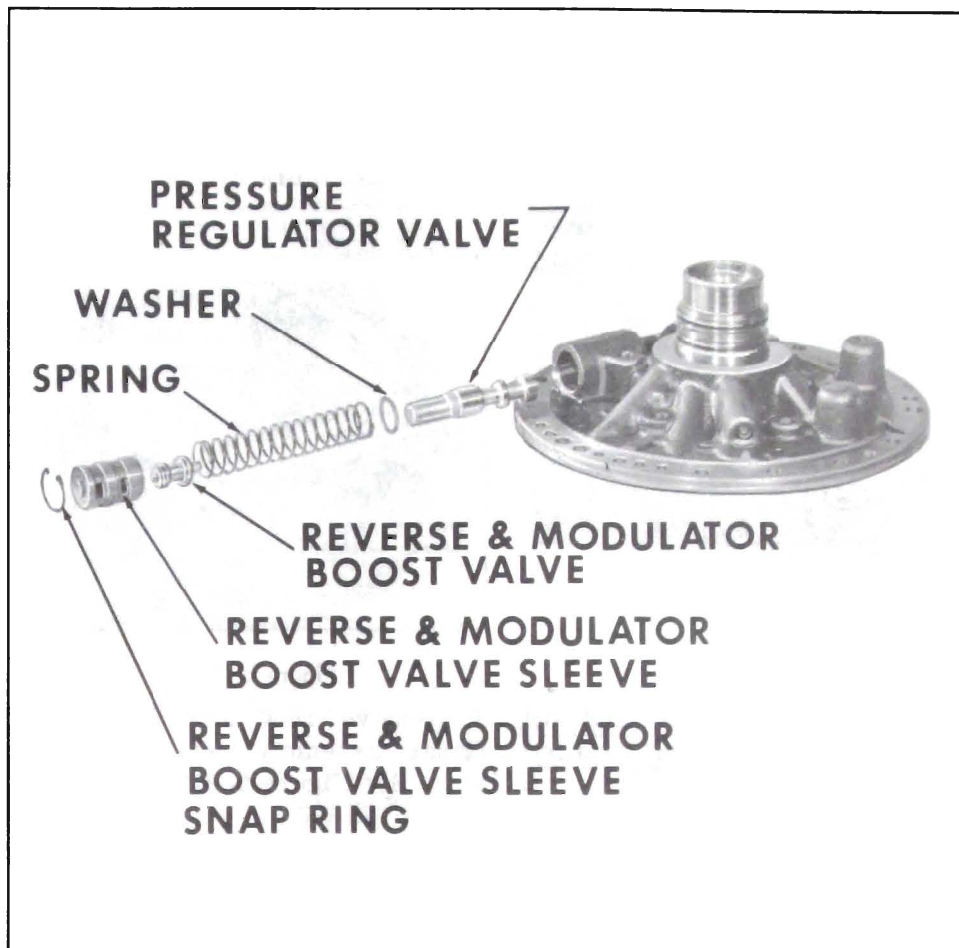

Figure 5-206
4. Assemble pressure regulator valve, washer, spring, reverse and modulator boost valve and sleeve. See Figure 5-206.